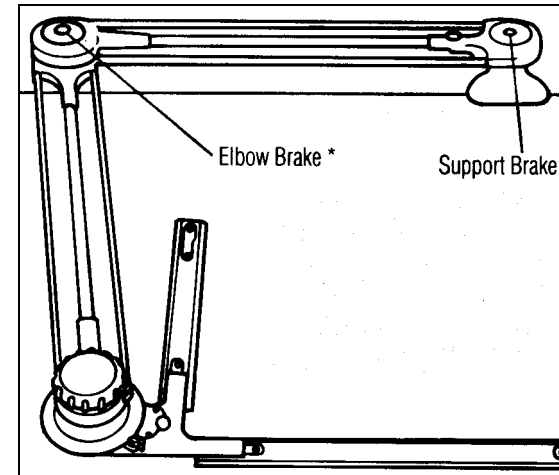

Figure 5
D. Adjusting Brakes (Figure 5)